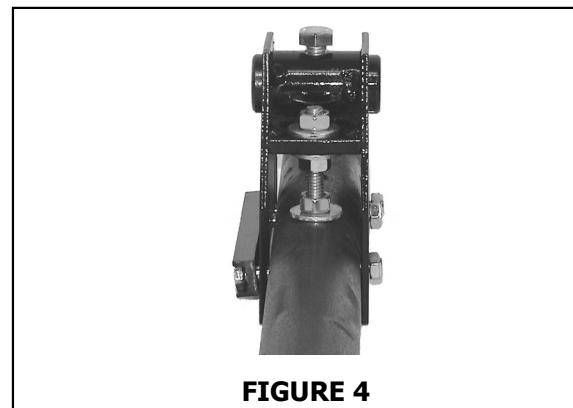

FIGURE 4
6. Slide the lower support over the 5/16" bolt and insert the 1/4" bolts through the tube (leave the 1/4" nuts loose). Adjust the 5/16" bolt so that the 1/4" bolts sit at the lowest point of the slots (this is your starting position). Tighten the 5/16" nuts. See figure 4.